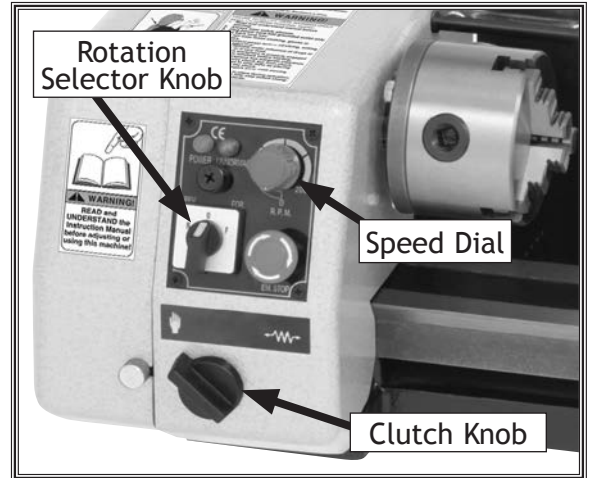

Figure 15. Lathe control panel.
3. Make sure the clutch knob (Figure 15) is turned to the manual position, and move the cross slide assembly to the far right away from the chuck.
4. Turn the speed dial (Figure 15) completely counter-clockwise to the "0" RPM selection.
5. Using the rotation selector knob (Figure 15), select the "F" (forward) position.